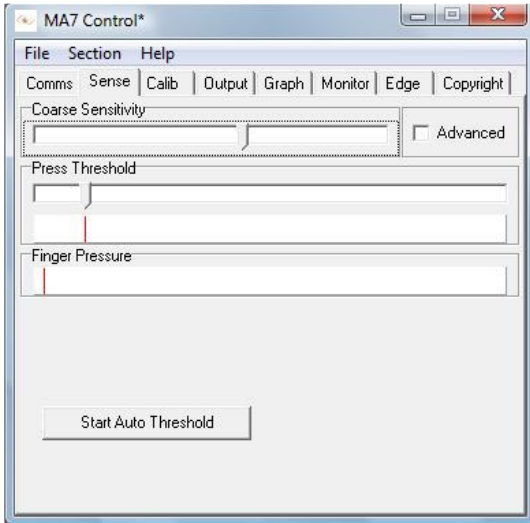

Fig 4
5. Place your finger over the centre red circle and follow it with your finger until it turns green Fig 4. Remove your finger. The automatic adjustment of sensitivity is now complete and the screen returns to Fig 4.